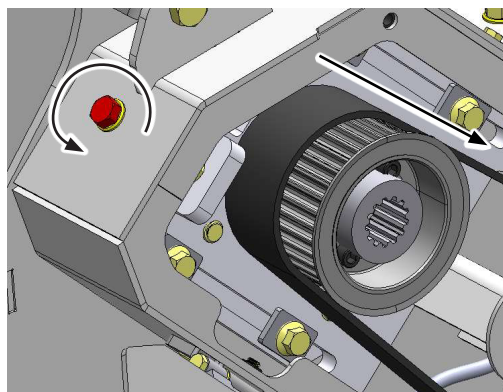

Figure 16
4. Lower the hydraulic motor sliding plate by turning the tension bolt counterclockwise. See Figure 16.